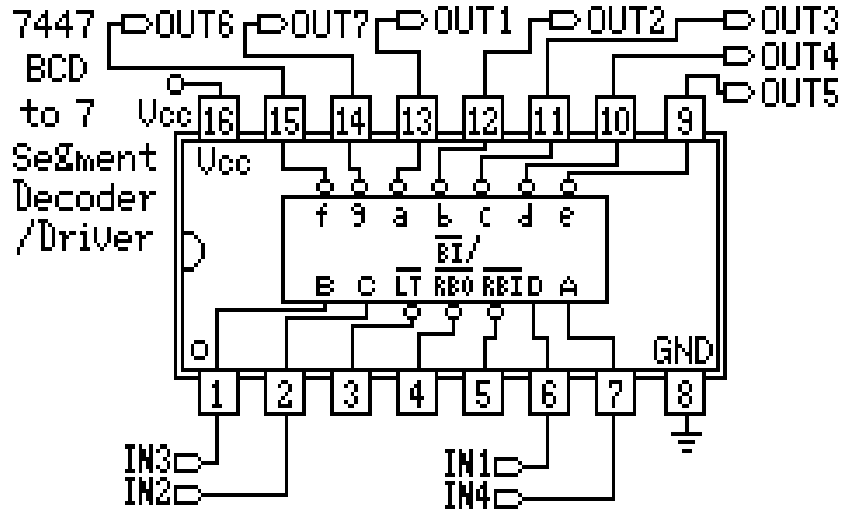

Figure 4-15
1. Common positive 7 segment display circuit, as figure 4-15